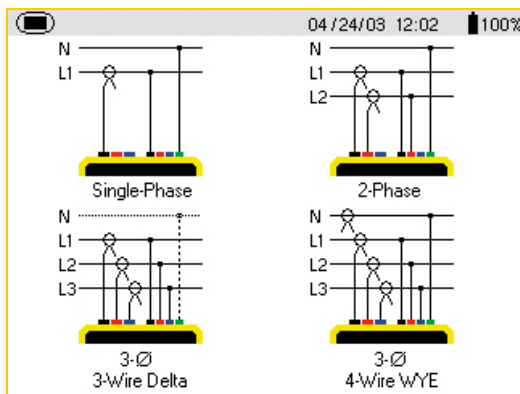

Figure 2. PowerPad™ setup screen
- b) The user can depress the SETUP button , the top button on the left side, to configure the instrument (Figure 1 bullet 10). There are 11 options in the setup. One option to note is the Electrical Hookup. Use the down arrow keys  (Figure 1, bullet 8) to scroll down to the desired function and press the ENTER key  (Figure 1, bullet 9). You should see a screen similar to Figure 2. Figure 3 shows the example of the screen seen while configuring the instrument using the DataView® software.